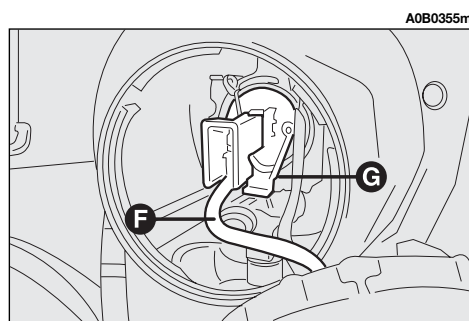

fig. 35
- Withdraw the supply cable terminal (**F-fig. 35**).
— Fit a new bulb making the tabs of the metallic part coincide with the grooves in the lamp lens and hook the bulb stopper (**G-fig. 35**).
— Refit the supply cable terminal (**F-fig. 35**).